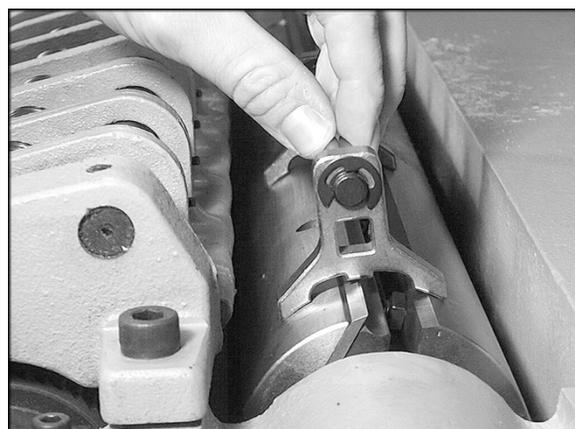

Figure 9 – Model 201 only
5. Place the knife-setting gauge on the cutterhead as shown in Figure 9, with the flanges resting upon the cutterhead and the center protrusion pushing down upon the tip of the knife. This will hold the high point of the knife to the proper height above the cutterhead (approximately 1/8" or 3.18mm).